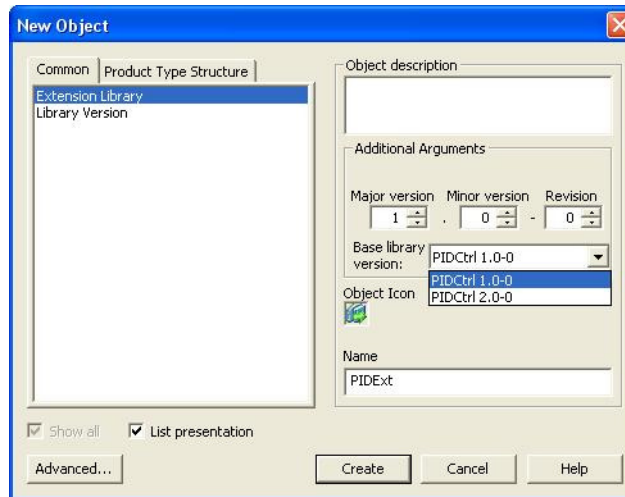

Figure 360. Creating New Extension Library - New Object Dialog Box
3. Select **Extension Library** and type the new library name in the **Name** field. Select version number for the new extension library and the version of the base library to connect with, refer to Figure 360.